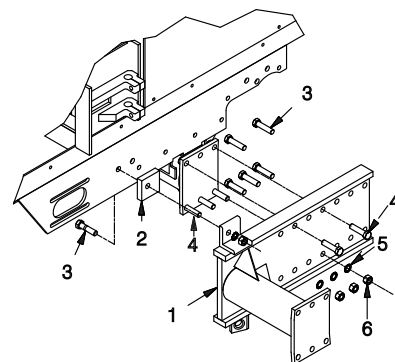
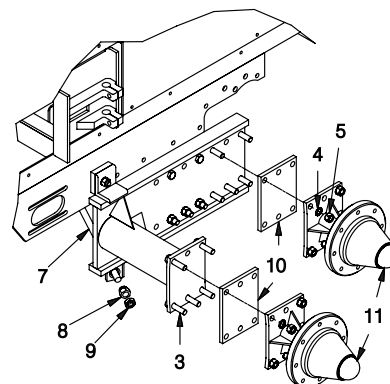

Figure 1 - Mounting Spacer & Tandem Plate
Figure 2 - Mounting Spacer Plates, Hubs & Truss Rod
A. Place (3) Y18C-1032 Bolts through the axle as shown in Figure 1. Place (1) R13807958 Bolt through frame as shown in Figure 1. Place (1) 901620 Tandem Plate and (1) 901675 Spacer as shown in Figure 1. Place remaining bolts, star washers, and nuts on so the tandem plate and spacer are secure.
B. Place (2) F000007636 Spacer Plate's on the tandem plate as shown in Figure 2. Place (2) F000008003 Hub and Spindle assemblies as shown in Figure 2. Place all bolts, star washers and nuts so the hub and spindle are secure. Torque all nuts and bolts as per torque chart on page 1. Place (1) RD00708600 Truss Rod as shown in Figure 1. Secure truss rod finger tight with (2) NMS0007125 Truss Rod nut and (2) R13809570 Jam nut.